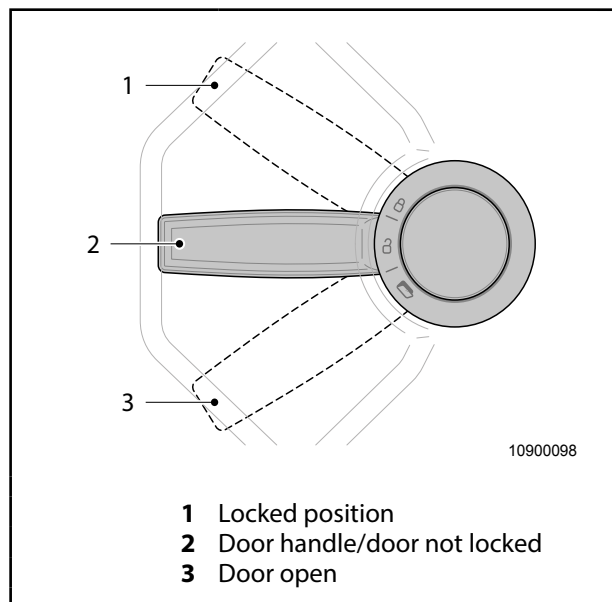

Fig. 15 Opening/closing the entrance door from inside
If the door is closed with inside door handle of the entrance door (Fig. 15) in locked position (Fig. 15, item 1), the door will get damaged!
☞ Before closing the entrance door, make sure that the inside door handle (Fig. 15) is **not** locked!
- ◆ Push the door handle (Fig. 15, item 2) down (Fig. 15, item 3) and open the door.
After releasing, the door handle jumps back into its initial position (Fig. 15, item 2).
- ◆ Pull the door handle (Fig. 15, item 2) upwards into locked position (Fig. 15, item 1).
- ◆ By the door handle (Fig. 15, item 2), pull the door closed until the lock snaps in.
If the door is closed with the inside door handle of the entrance door (Fig. 15) in locked position (Fig. 15, item 1), the door will get damaged!
- ☞ Before closing the entrance door, make sure that the inside door handle (Fig. 15) is **not** locked!